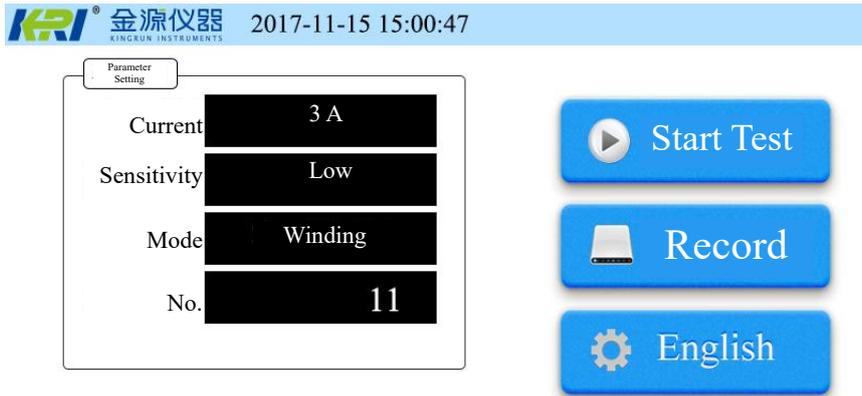

Figure 2
1. Turn on the power switch. The instrument shows the welcome interface for 2s and then the main menu, shown in Figure 2. Relevant operation can be performed by lightly touching the corresponding icon or name.
2.1 Parameter: as shown in Figure 2: lightly touch the parameter setting area on the left of the screen to set the test parameters.